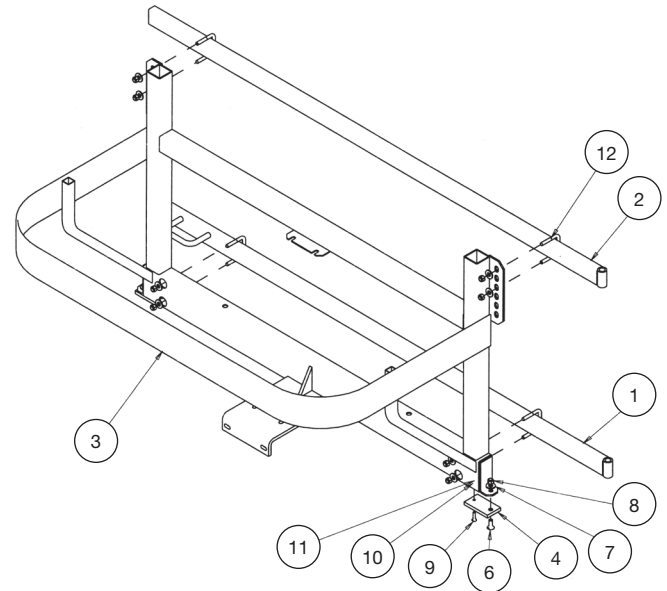

Figure 4. Spreader Mount
6. Spreader Mounting (See Figure 4)